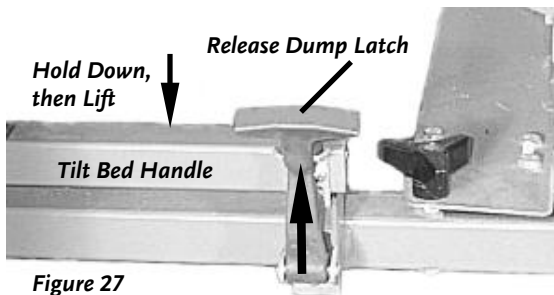

Figure 27
2. Remove the Rear Panel of the Collector Box by releasing the six (6) fasteners located at the sides, top and bottom of the panel. Lift the Rear Panel off the mounting pins on the Collector Box Cover.
3. While holding down on the Tilt Bed Handle, release the Dump Latch (**Figure 27**) and raise the Tilt Bed using the Tilt Bed Handle (**Figure 27**).